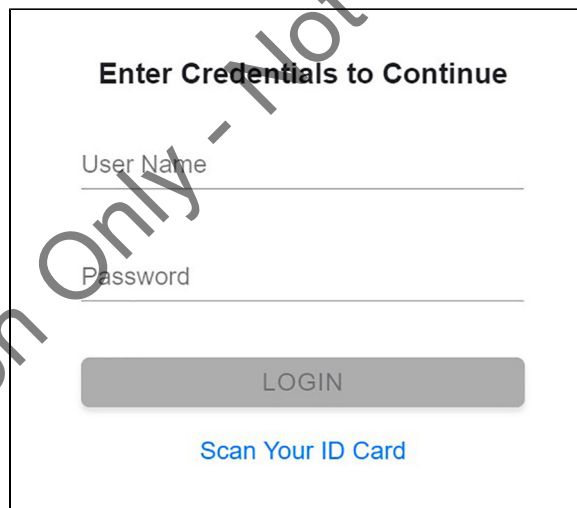

Figure 16. Enter Credentials to Continue Screen
8. Depending on your configuration, the **Enter Credentials to Continue** screen may display (see Figure 16). If enabled, you may log in by scanning your institutional ID. Otherwise, manually enter your User Name and Password and touch **LOGIN** to continue.